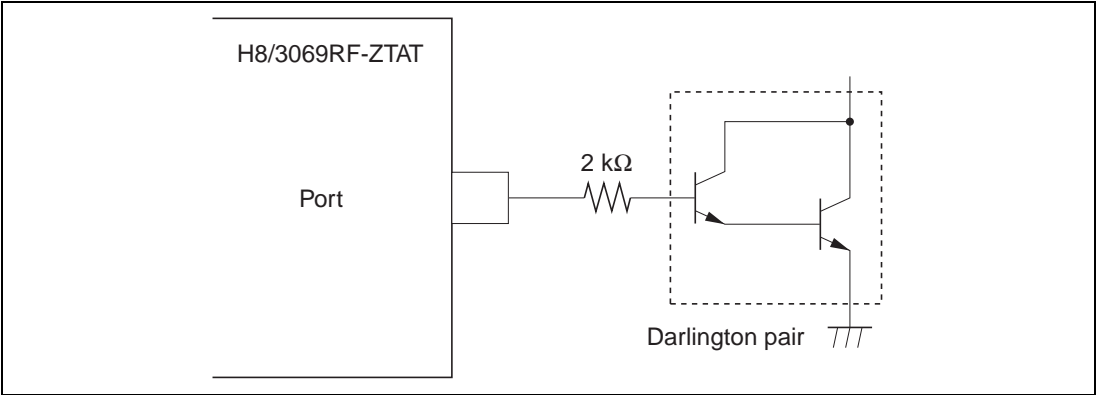

Figure 21.1 Darlington Pair Drive Circuit (Example)
2. When directly driving a darlington pair or LED, always insert a current-limiting resistor in the output line, as shown in figures 21.1 and 21.2.